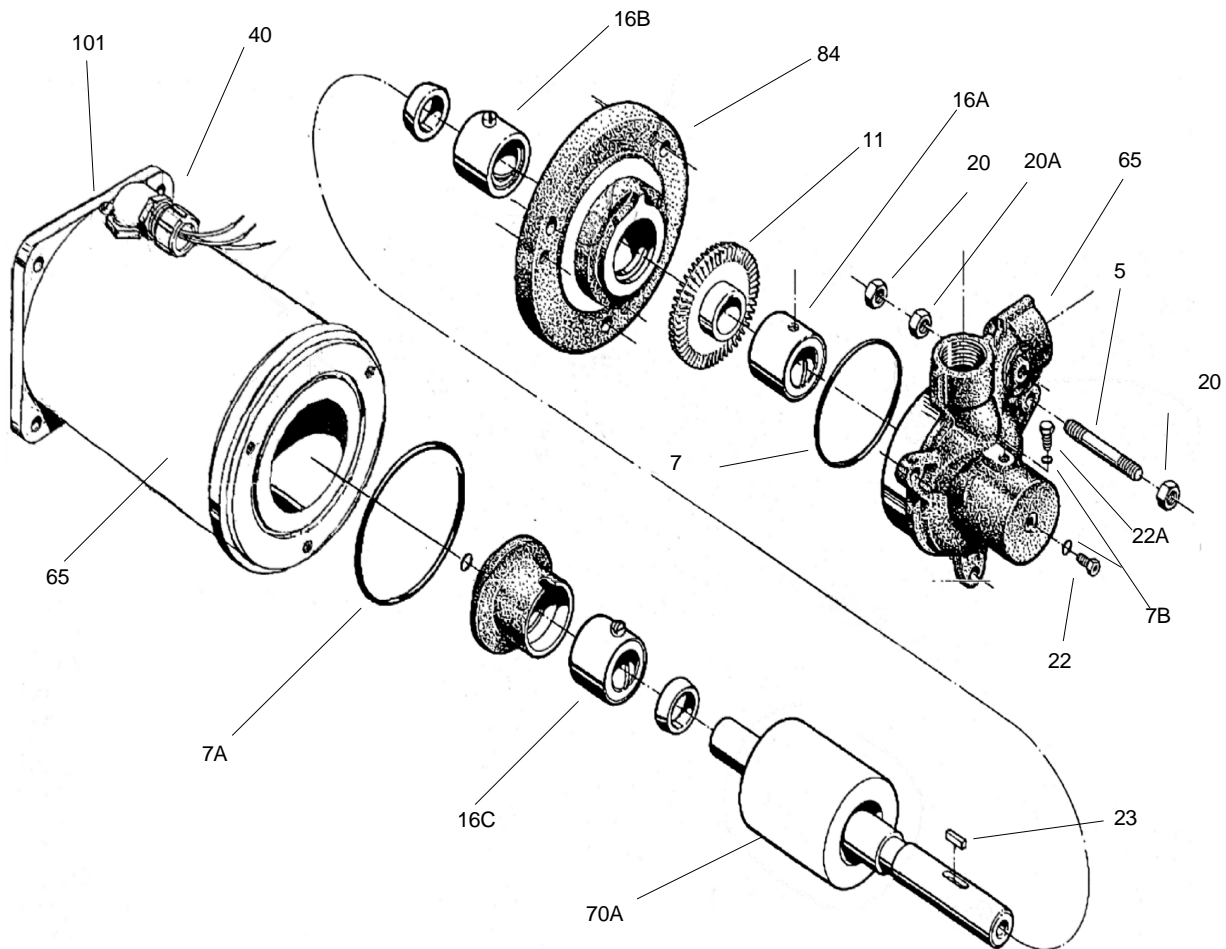

Figure 4-9
An exploded view of the unit, figure 4-9 is provided for referencing the numbers in the following procedures, i.e. (#84), motor bracket.
Refer to figure 4-9 for reference to the numbered parts in the procedures below.
8. Remove the three jam nuts (#20A) and the other three nuts (#20) using a 9/16" wrench and slide off the motor bracket (#84). **DO NOT** loosen, tighten, or turn the three 3/8-24 setscrews (#15) in the motor bracket, refer to figure 4-9. These are used to set the motor bracket true with the shaft. If these are disturbed, it will be necessary to follow the "Motor Bracket Setup Procedure" when reassembling the pump, as outlined in section 4E Reassembly.
6. Install the motor bracket (#84) over the three studs (#5) so that the water stop is oriented on the same side as the motor conduit connection, refer to figure 4-9. Be certain to orient the cartridge bearing (#16B) on the shaft so that the screw head slides into its groove in
8. Install the O-ring (#7) over the motor bracket. Refer to figure 4-9.
14. Place the pump body over the three studs, aligning the water stop on the motor bracket with the water stop on the body. The pump inlet should be in line with the conduit connection on the motor, refer to figure 4-9. Some pressure may be required to push the pump body over the O-ring on the motor bracket. Be careful not to pinch and damage the O-ring.